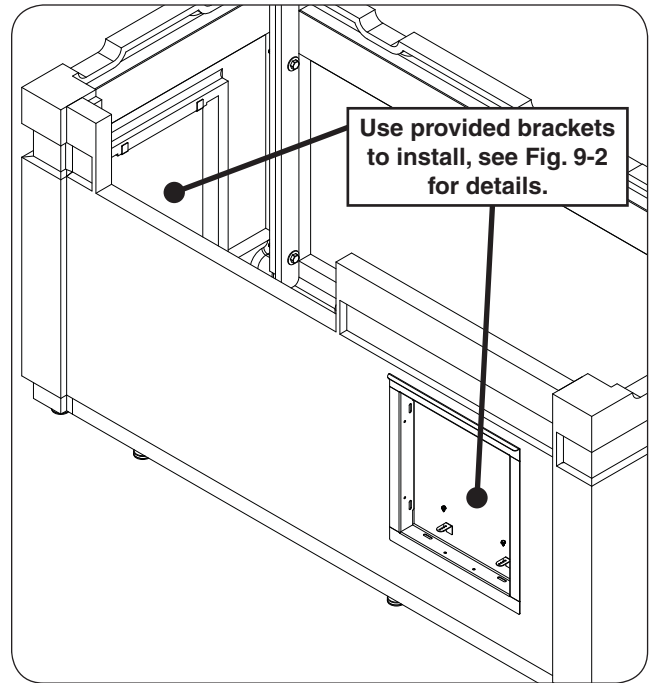
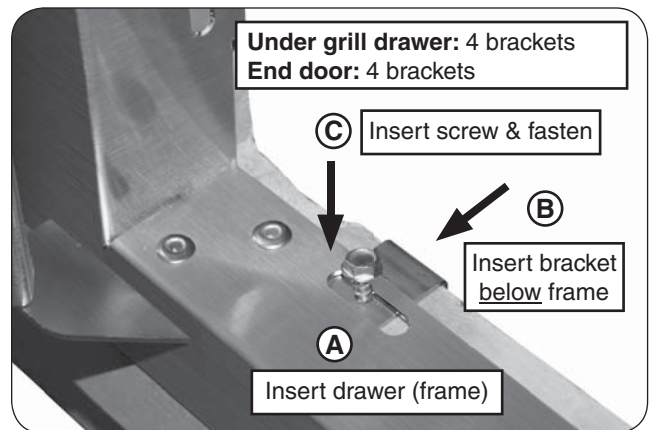

Fig. 9-1 Door and drawer install locations
Fig. 9-2 Door / drawer install detail
The drawer and door for your island are purchased separately. Review the instructions provided with your accessories. See Fig. 9-1 for install locations.
1. Insert your drawer completely into the appropriate opening. Ensure it is flush against the exterior wall (see Fig. 9-1 and Fig. 9-2, A).
2. The drawer will have 2-4 oblong cutouts (or round holes) on both the top and bottom of its frame. Insert a bracket where a cutout exists, **below the frame**. See Fig. 9-2, B.
3. While squeezing the rear of the bracket and the front of the drawer frame **firmly** against the concrete wall, insert a hex screw and tighten with the power drill and $\frac{5}{16}$ " hex driver (see Fig. 9-2, C). **DO NOT OVERTIGHTEN.**